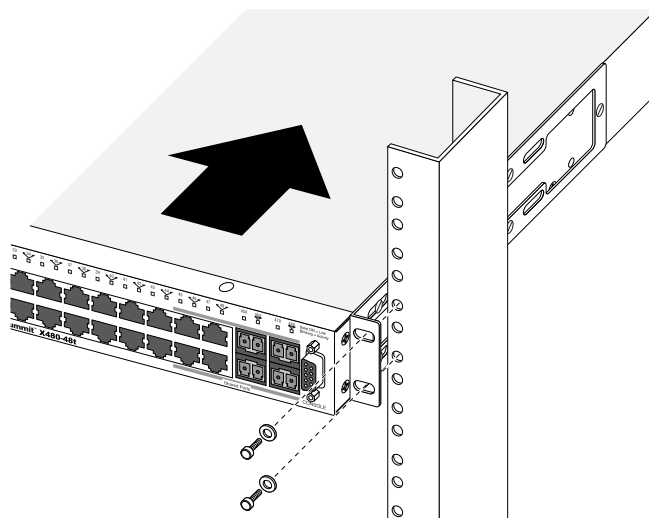

Figure 256: Front-Mounting a Switch
- 5 Slide the switch into the rack until the mounting bracket flanges are against the rack posts (see Figure 256: Front-Mounting a Switch on page 285).